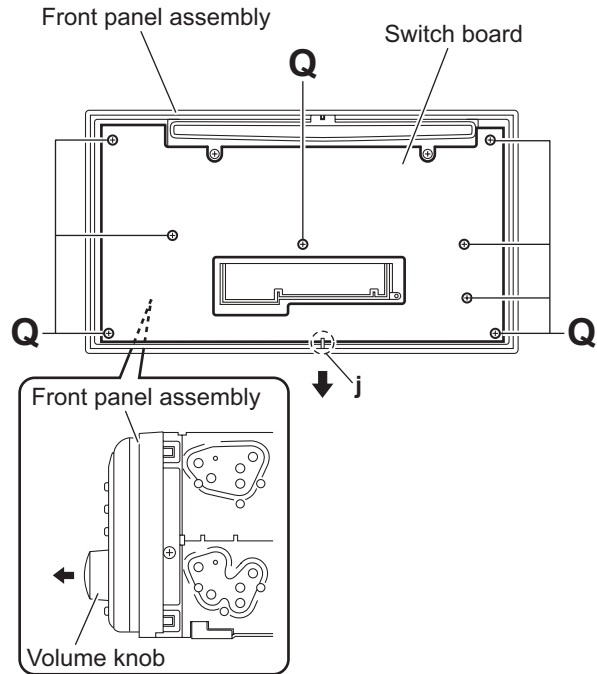

Fig.12
3.1.12 Removing the switch board (See Fig.12)